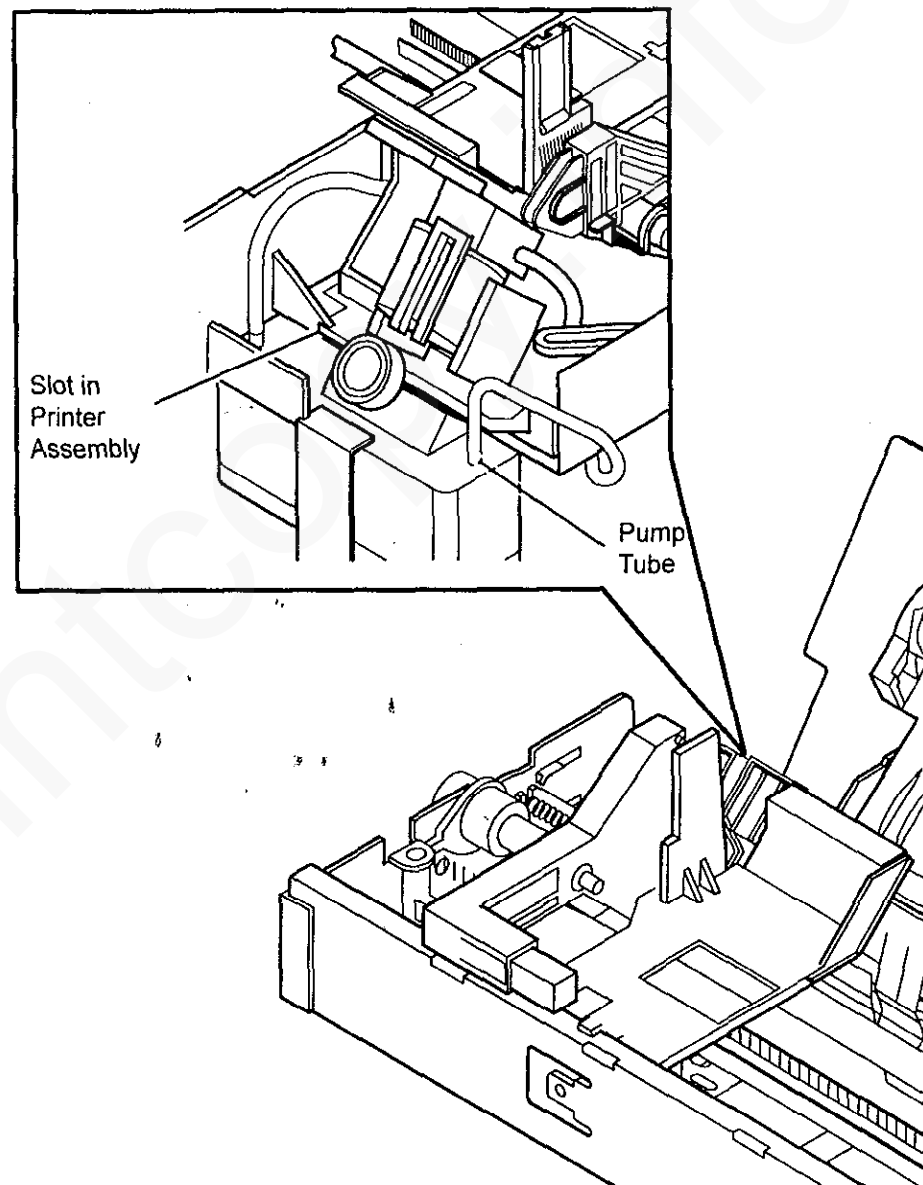

Figure 4 Engaging slot in Printer Assembly
1. Ensure the Carriage Assembly engages the slot in the Printer Assembly which is located just above the Tank (Figure 4).